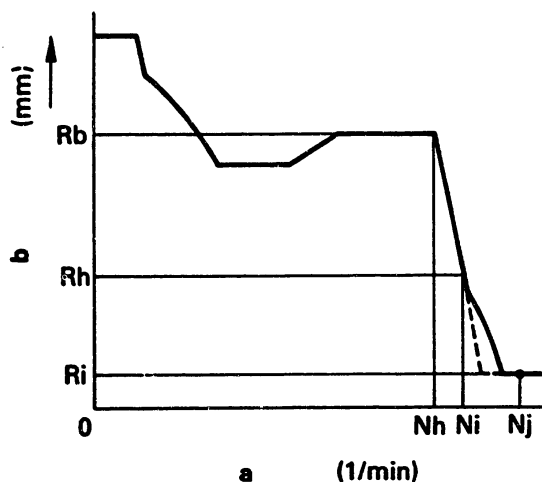

Fig. 93 High-speed control starting point and speed droop check (common to RAD and RAD-K)
2. Raise pump speed slowly to "Nh" rpm. Make adjustments to setting screw (44) so that control rack commences to travel from position "Rb". (Figs. 93 and 94)
3. Ensure by raising pump speed that it remains below "Ni" rpm when control rack position reaches "Rh". (Fig. 93)
4. Further increase the pump speed to "Nj" rpm and ensure the control rack is positioned at "Ri" mm. (Fig. 93)